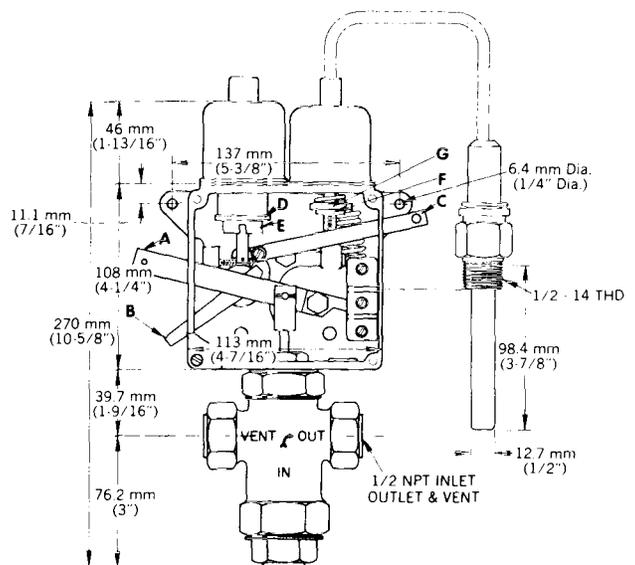

Figure 3
### OPERATION - See Figure 3
### ADJUSTMENTS - See Figure 3
2. Lever "A," Figure 3, will not stay in the UP position.
1. Lever "A," Figure 3, will not stay in the UP position.